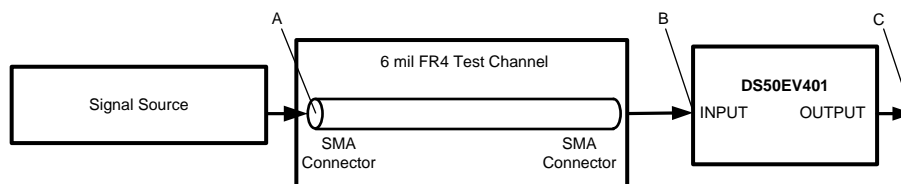

Figure 2. Test Setup Diagram
- (4) V_{IN-S} is a measurement of the input differential envelope, see FR4 / BACKPLANE Typical Performance Eye Diagrams. The device does not require an open eye.
- (5) Specification is ensured by characterization at optimal MODE setting and is not tested in production.
- (6) Measured with clock-like {1111 0000} pattern.
- (7) Specification is ensured by characterization at optimal MODE setting and is not tested in production.
- (8) Deterministic jitter is measured at the differential outputs (point C of Figure 2), minus the deterministic jitter before the test channel (point A of Figure 2). Random jitter is removed through the use of averaging or similar means.
- (9) Random jitter contributed by the equalizer is defined as sqrt(J_{OUT}² – J_{IN}²). J_{OUT} is the random jitter at equalizer outputs in ps-rms, see point C of Figure 2; J_{IN} is the random jitter at the input of the equalizer in ps-rms, see point B of Figure 2.